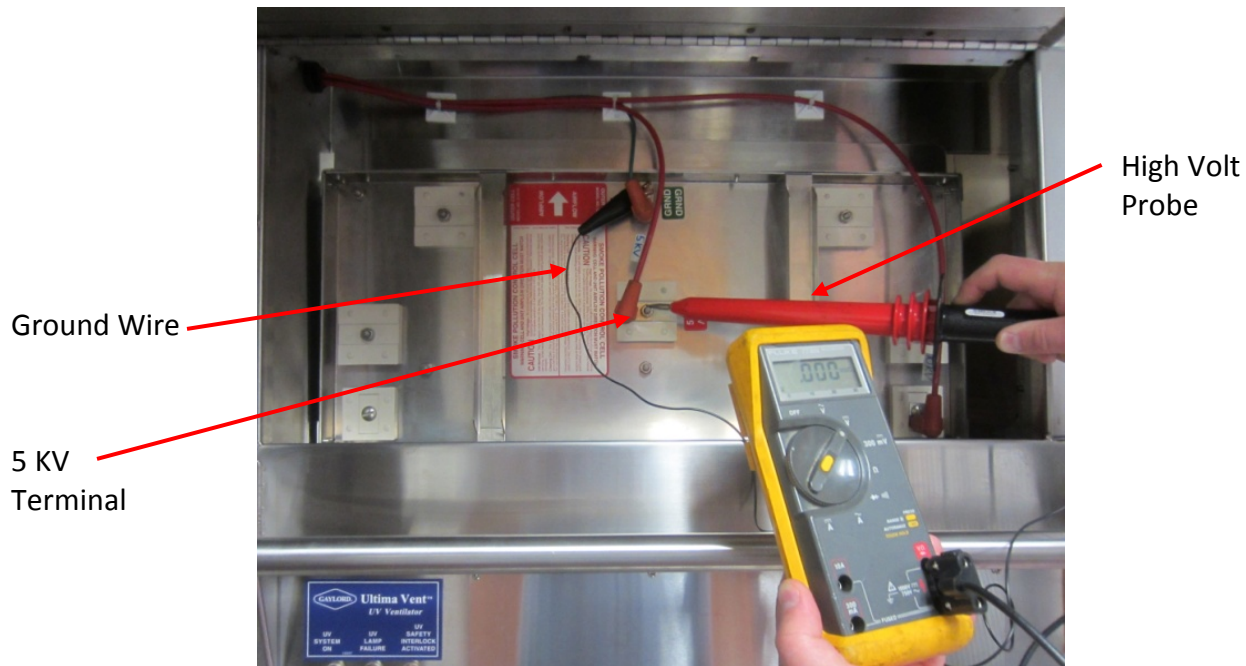

Figure 6-50-2
10. Then measure voltage from ground on the Cell to the 5 KV volt connection point (Refer to Figure 6-50-2). Voltage should be between 4,700 and 5,500 volts DC. If proper voltage is not obtained it indicates that the Cell Plates are shorting out. Proceed to “Shorting Cell Plates” instructions on page 6-52.